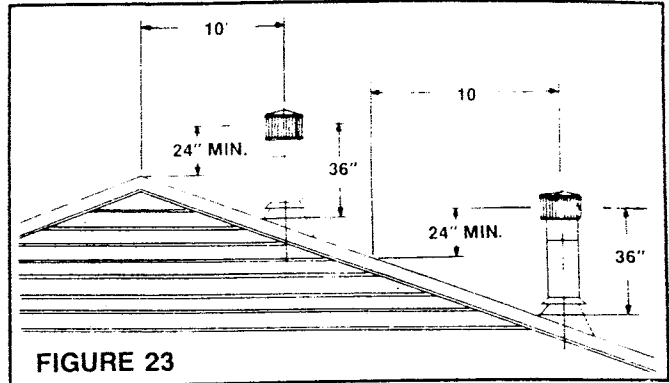

FIGURE 23
**10' Rule**—if chimney is within 10' of the roof peak, adjacent wall or building, the top should extend a minimum of 2' above the peak. When further than 10' from the roof peak, the tip should extend 2' higher than the closest point 10' away horizontally (See Figure 23).